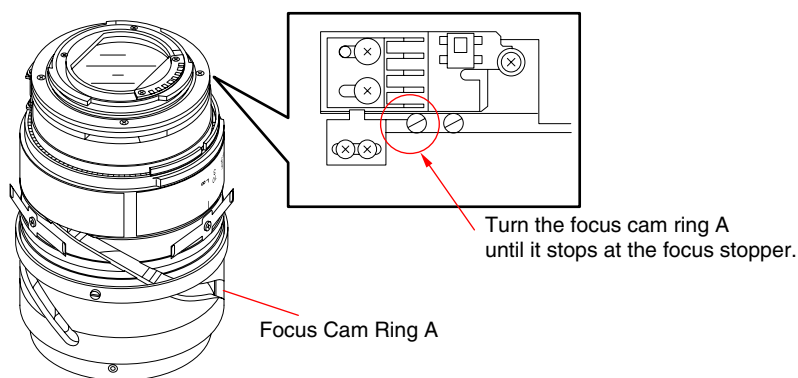

Fig. 4-7-5
- 1) Disassemble or assemble the checking lens into the state of the Fig. 4-7-5.